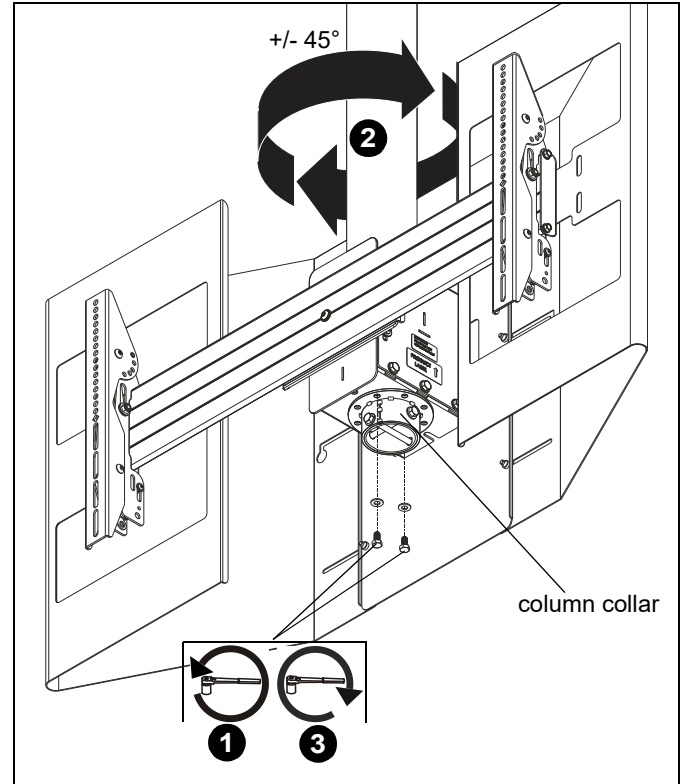

Figure 8
- Remove two bolts and washers connecting column collar to mount assembly box. (See Figure 8)
- Adjust yaw in 45° increment until desired position is achieved. (See Figure 8)
- Reinstall bolts and washers removed in Step 1. (See Figure 8)